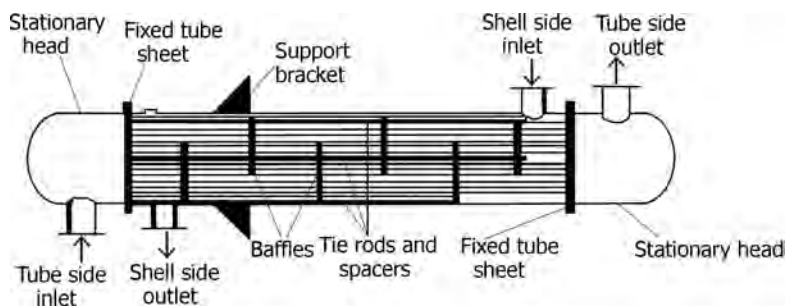

FIGURE 10.3 1-1 Fixed tube sheet shell and tube heat exchanger with baffles.
- Odd numbers of tube passes have more complicated mechanical stresses and so on. An exception is 1–1 exchangers that are sometimes used for vaporizers and condensers (Figure 10.3).
- Figures 10.3–10.7 illustrate different shell and tube heat exchangers.
- A fixed tube sheet heat exchanger (Figure 10.3) has straight tubes that are secured at both ends to tube sheets welded to the shell. The construction may have removable channel covers, bonnet-type channel covers, or integral tube sheets.